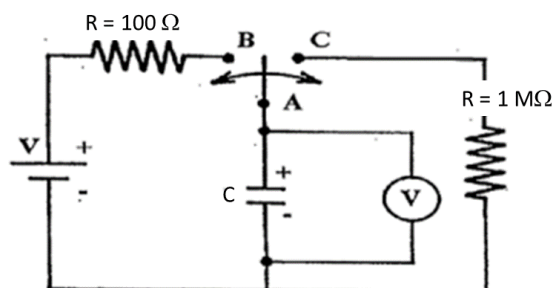

Figure 7.2: Circuit for studying charging and discharging of an RC circuit.
1. If the experimental set up in Fig. 7.2 has a 12.0V battery and a 0.22 μ F capacitor, determine the time it would take for the fully charged capacitor to decrease the voltage from 12.0V to 8.0V (switch will be in the discharging position A-C).
2. The two resistors, 100 Ω and 1M Ω , in this circuit (Fig.7.2) are different by orders of magnitude. Explain why?
1. Connect the circuit in Fig. 7.2 using the modules and the 5V constant output of the BK Precision power supply. Remember to use the metal jumpers to complete the circuit.